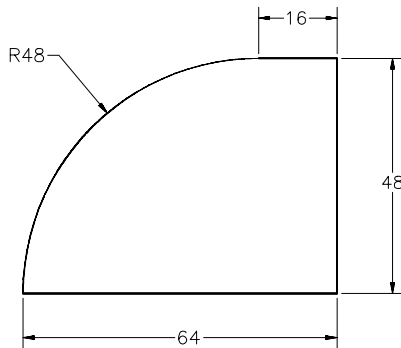

Figure 26-113 The region before extrusion
13. Draw the object shown in Figure 26-113 and then convert it into a region.